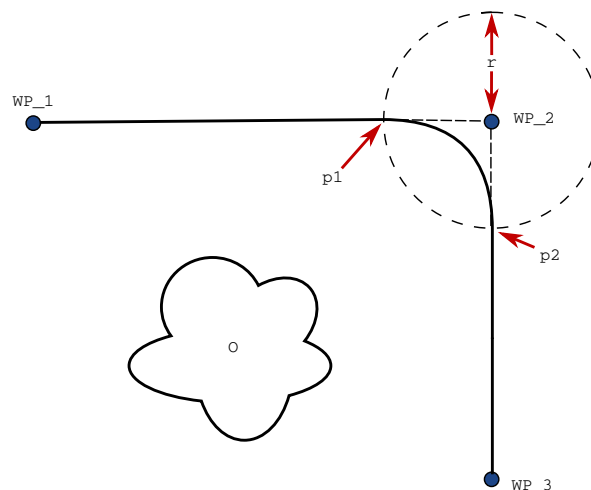

Figure 15.3: Blend over WP\_2 with radius  $r$ , initial blend position at  $p1$  and final blend position at  $p2$ .  $O$  is an obstacle.
**Blend parameters** Apart from the waypoints, multiple parameters will influence the blend trajectory (see figure 15.3):